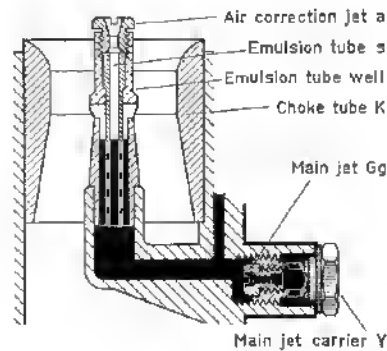

Fig. 25 Assembly No. 21
**c) Jet Assembly No. 21 (fig. 25)**